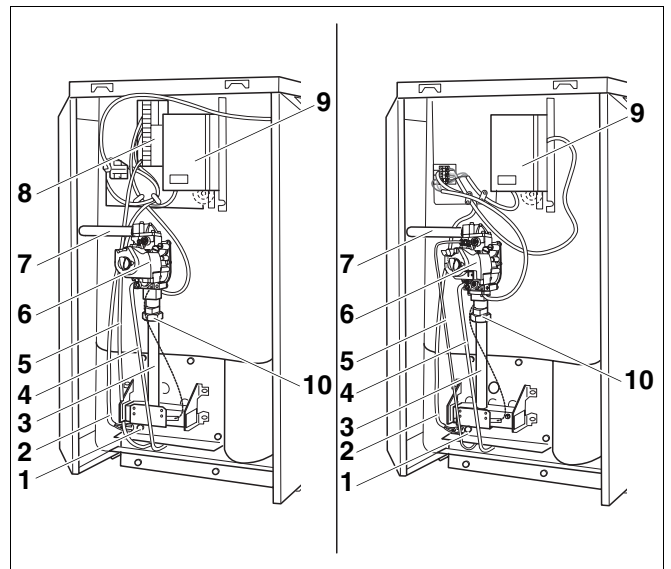

Fig. 3 Front view (G124X II left, G124X SP right)
14. Tighten the screws (→ Fig. 3, page 5) between the gas valve and the burner again. Make sure that the connection pipe gasket removed in step 9 is replaced.
18. **G124X II only:** Connect ignition wire (→ Fig. 3, page 5) to the automatic gas igniter.
19. **G124X SP only:** Attach thermocouple (→ Fig. 3, page 5) to the gas valve.